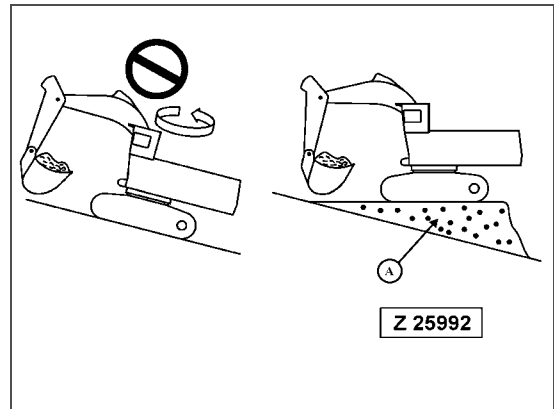

Fig. 2-29
- If the machine has to be used on a slope, pile the soil to make a platform (A on Fig. 2-29) that will keep the machine as horizontal as possible.